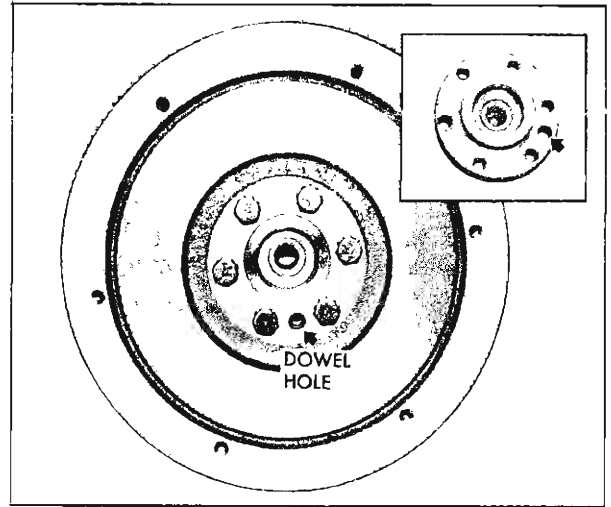
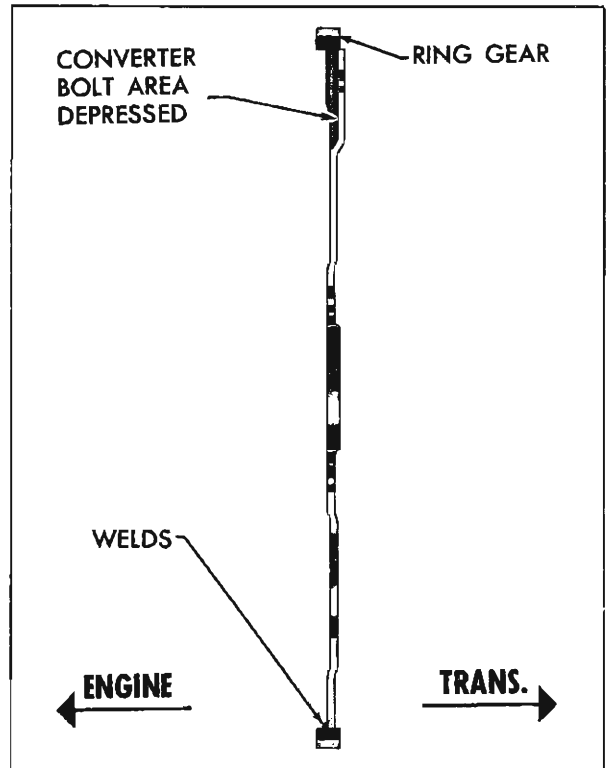

Fig. 76—Flywheel Installation (Syn.)
Fig. 77—Flywheel Installation (P.G.)
27. Install flywheel—Line up dowel hole in flywheel with dowel hole in crankshaft flange and bolt flywheel in place (fig. 76). Torque to 45-50 ft. lbs. (Powerglide flywheel must be installed as shown in (fig. 77)).